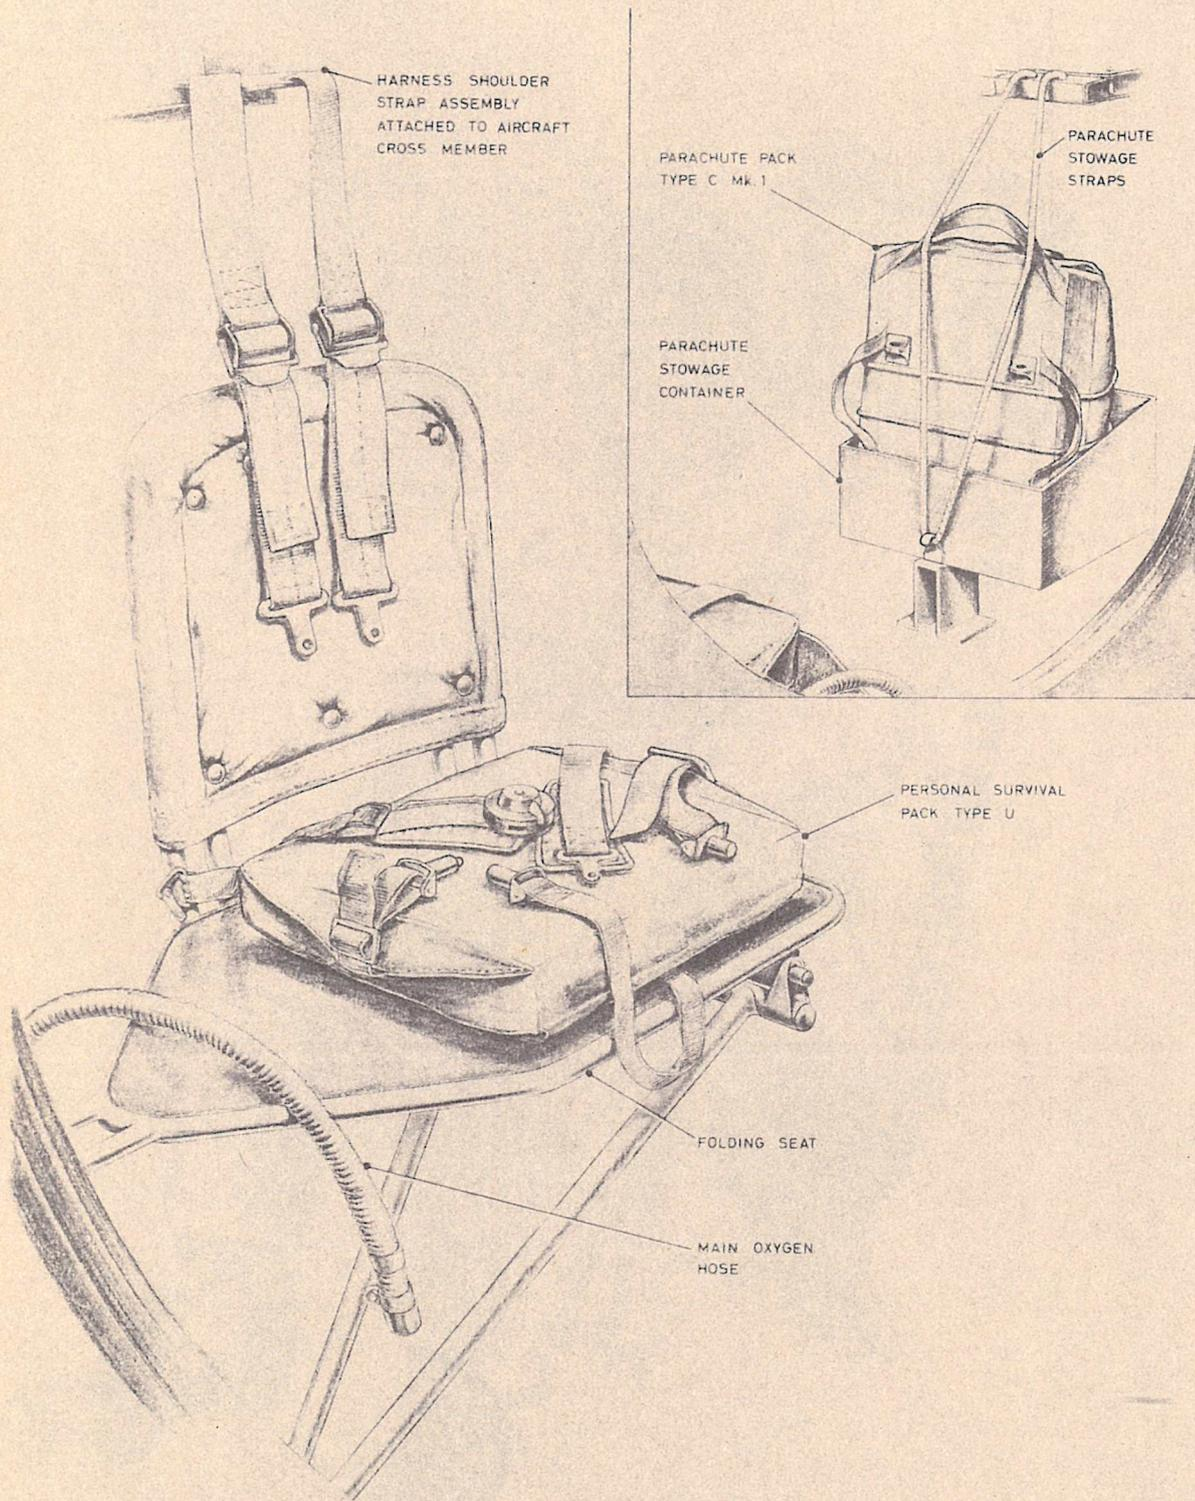

Fig. 7. The folding seat equipped (Inset: parachute stowage)
25. The folding seat is equipped after the other three members of the crew have entered the aircraft and occupied their positions, as follows; refer to fig. 7:-